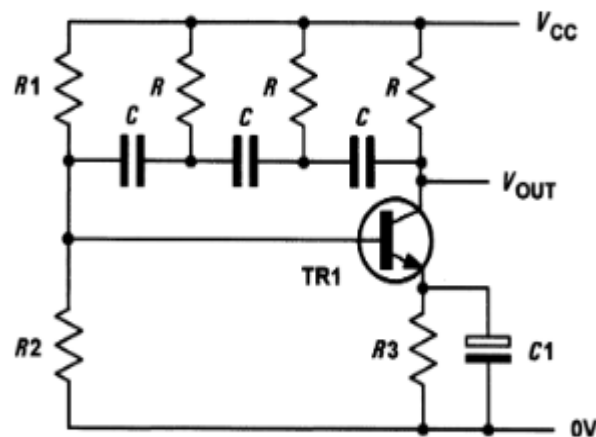

Fig 2.16. Sine wave oscillator based on a three-stage C–R ladder network
- A simple phase-shift oscillator based on a three-stage C–R ladder network is shown in Fig. 2.16.
- The frequency of oscillation of the circuit shown in Fig.2.16 is given by: